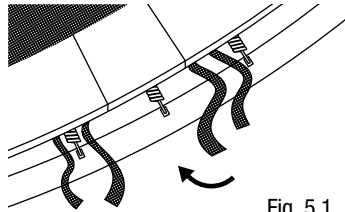

Fig. 5.1
- a) Lay the frame cushions (2) on the trampoline so that the springs and frame pipes are covered. Make sure that the cushion covers all metal parts. Stretch out the reinforcement straps (Fig 5.1) so that every second strap is extended over a leg support